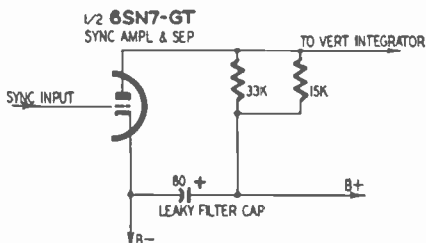

Fig. 2-V. Leaky filter capacitor can produce vertical jitter.
**SERVICE:** This trouble is usually caused by defective low-voltage supply filter capacitors. A leaky decoupling capacitor in the sync amplifier and separator could give this trouble. Refer to Fig. 2-V. (See also jitter.)